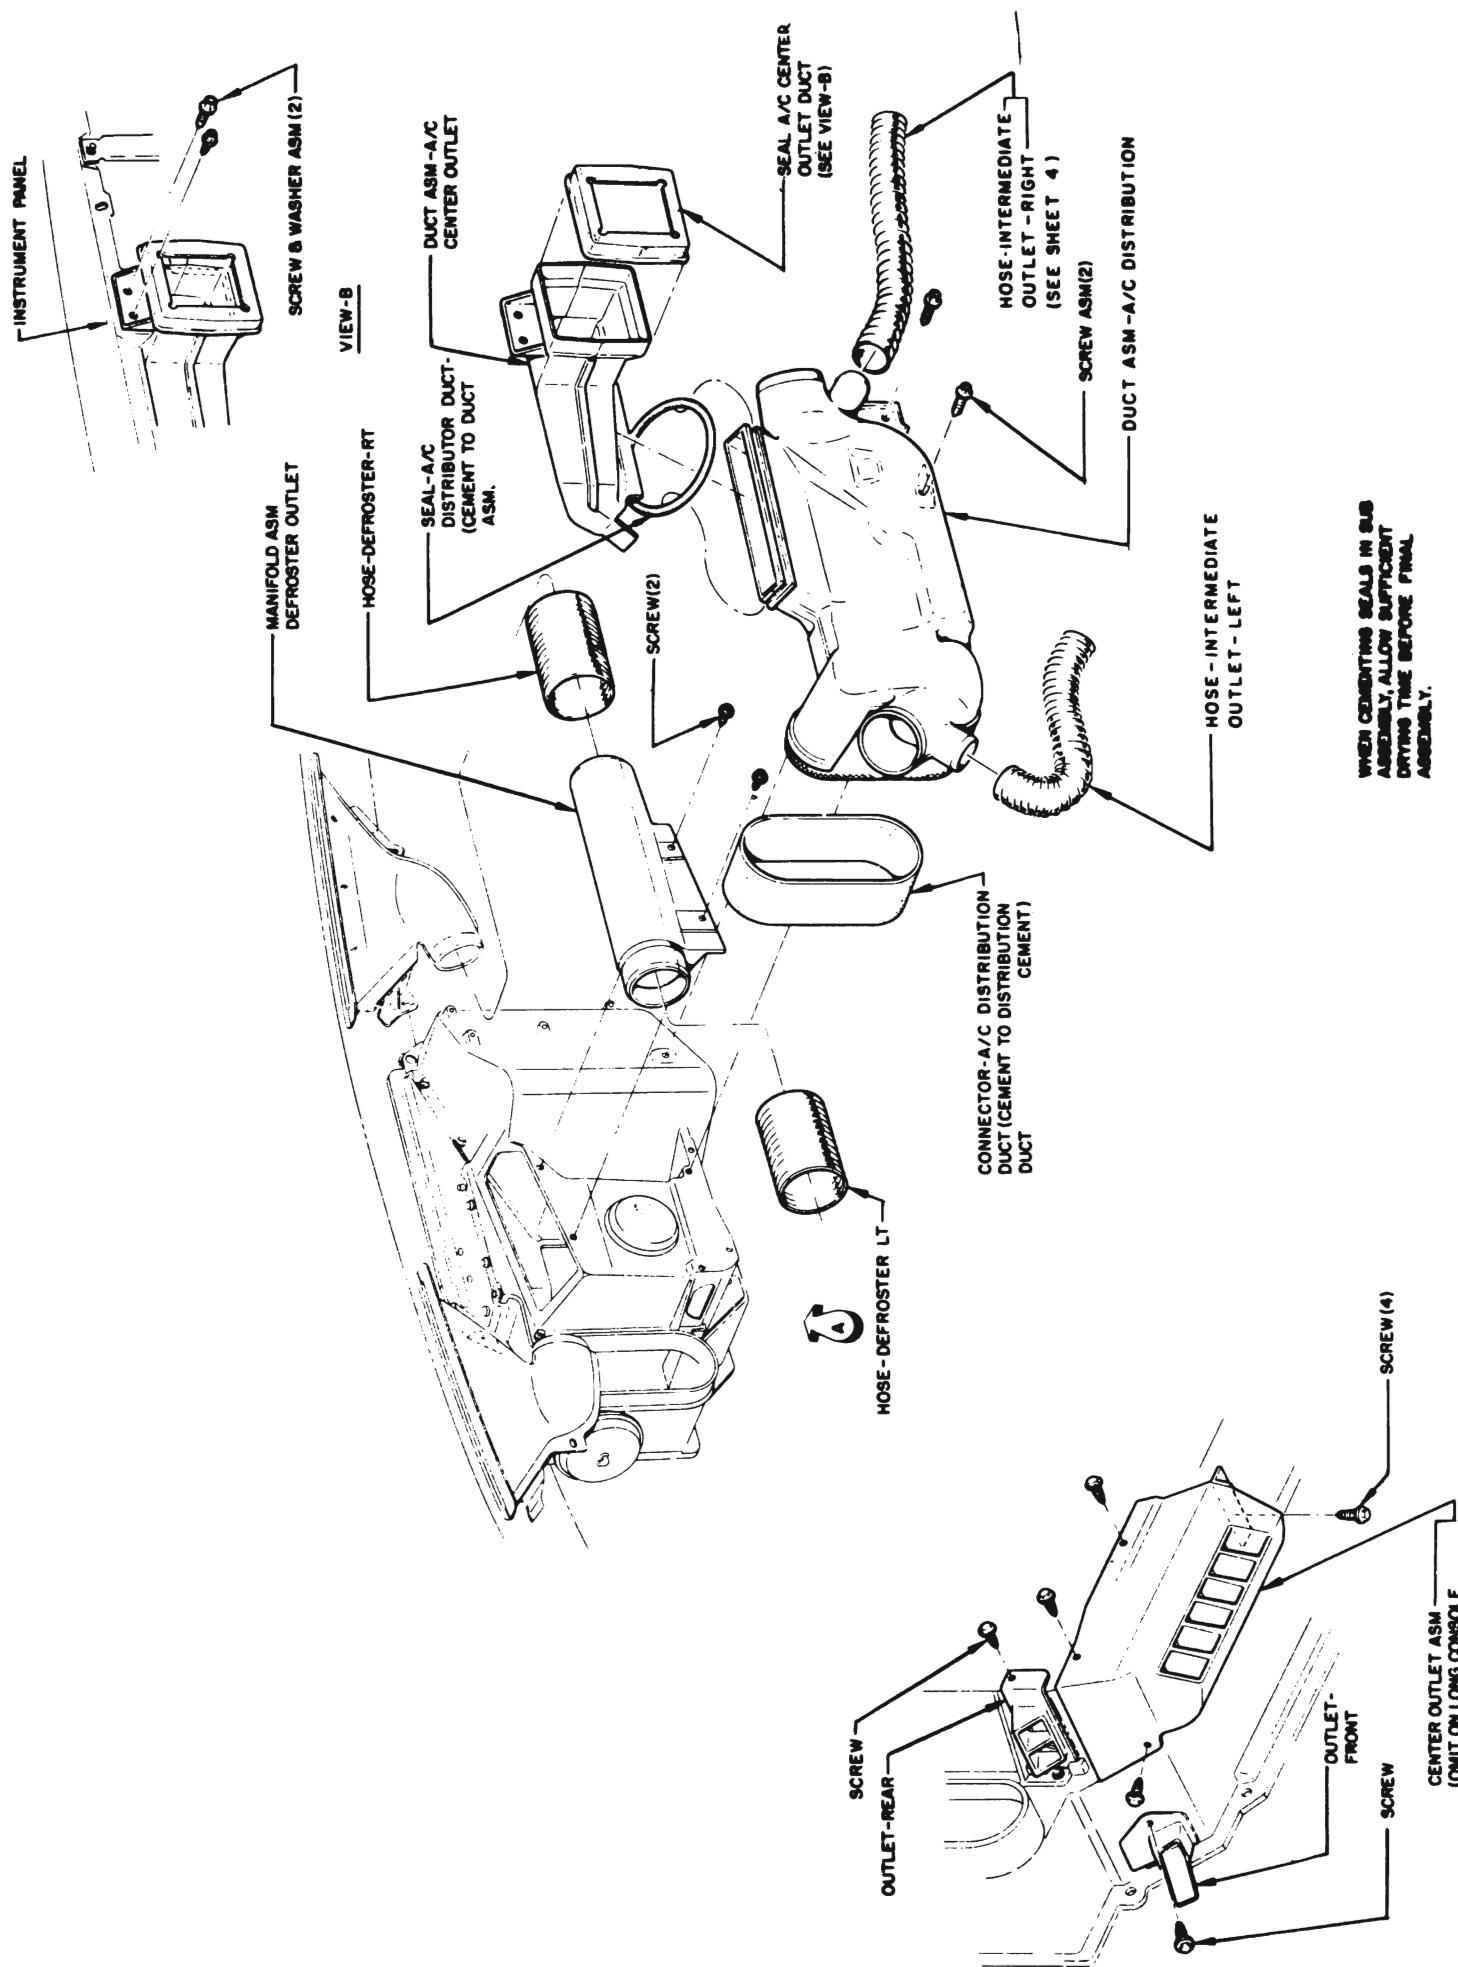

Figure 13-137 Defroster Manifold and A/C Ducts, 45-46-48000 Series
3. Remove center A/C duct, A/C distributor duct and defroster outlet manifold assembly. See Figure 13-137.